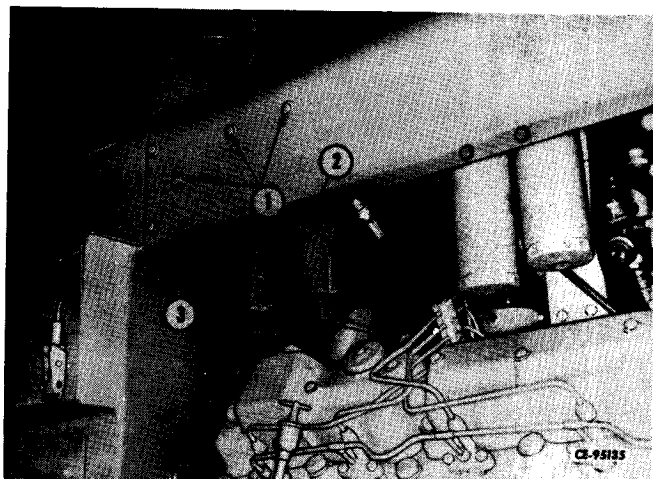

Figure 2-33
Position engine oil filters (2, Fig. 2-33). Install and tighten cap screws and nuts (1) securing oil filters to hood (3).